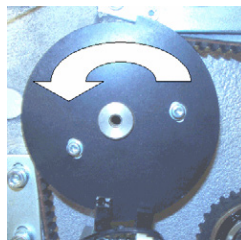

Figure 3 - Turn Z-Axis Flag Counter-Clockwise (CCW)
3. At the rear of the machine, loosen the z-axis flag; and while facing the z-axis flag, rotate it completely counter-clockwise and re-tighten it. See Figure 3.